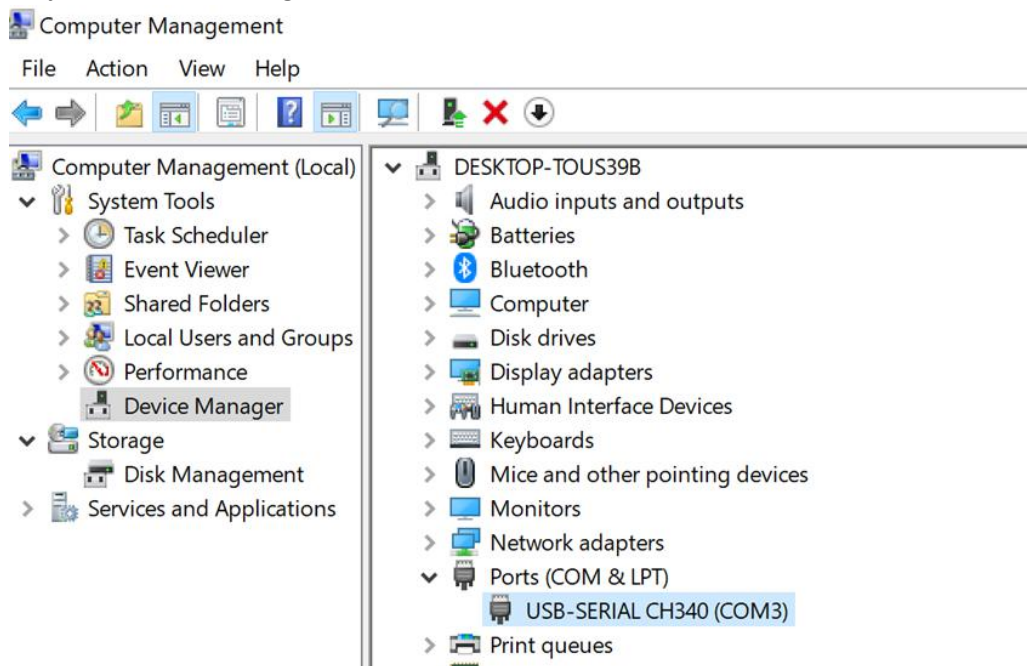

Fig. 3.2.1
(2) Connection: connect the data cables or wireless data transmission. USB cable connects to your computer.
(3) Driver Debugging: Right click “My Computer” to “Computer management”, click “Device Manager”. User can find “USB Serial Port (COM XX)” which indicates driver has been installed automatically, as shown in Fig. 3.2.1